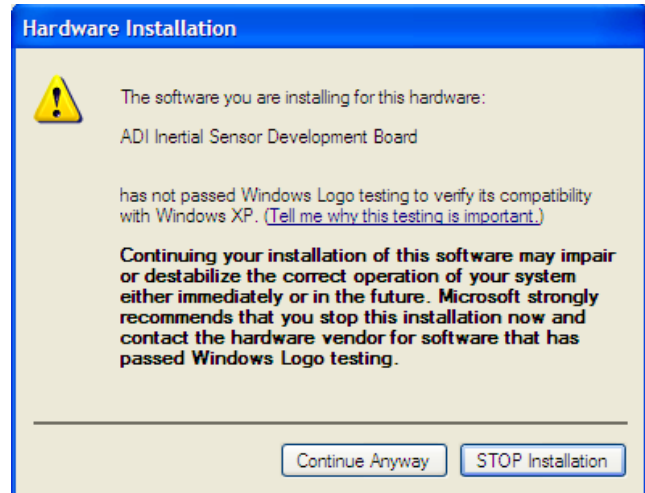

Figure 10. Continue Installation
11. Select Continue Anyway when you get the warning as Figure 10 shows.